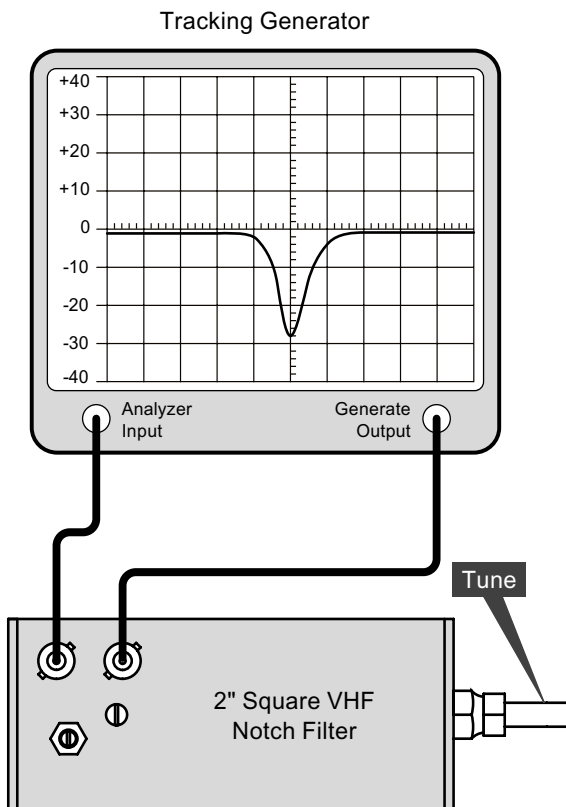

Figure 19: Tuning the Notch filter for max attenuation.
- 5) Set the tracking generator for the center frequency of the filter and connect the test leads as shown in **Figure 19** but first temporarily connect the leads together through a female barrel connector and set a zero dB loss reference. On the IFR A-7550 proceed as follows:
- 6) Connect the leads to the cavity as shown in figure 19 and use a tuning tool or small screw driver to engage the notch tuning capacitor and rotate it to obtain maximum return loss at the center frequency.